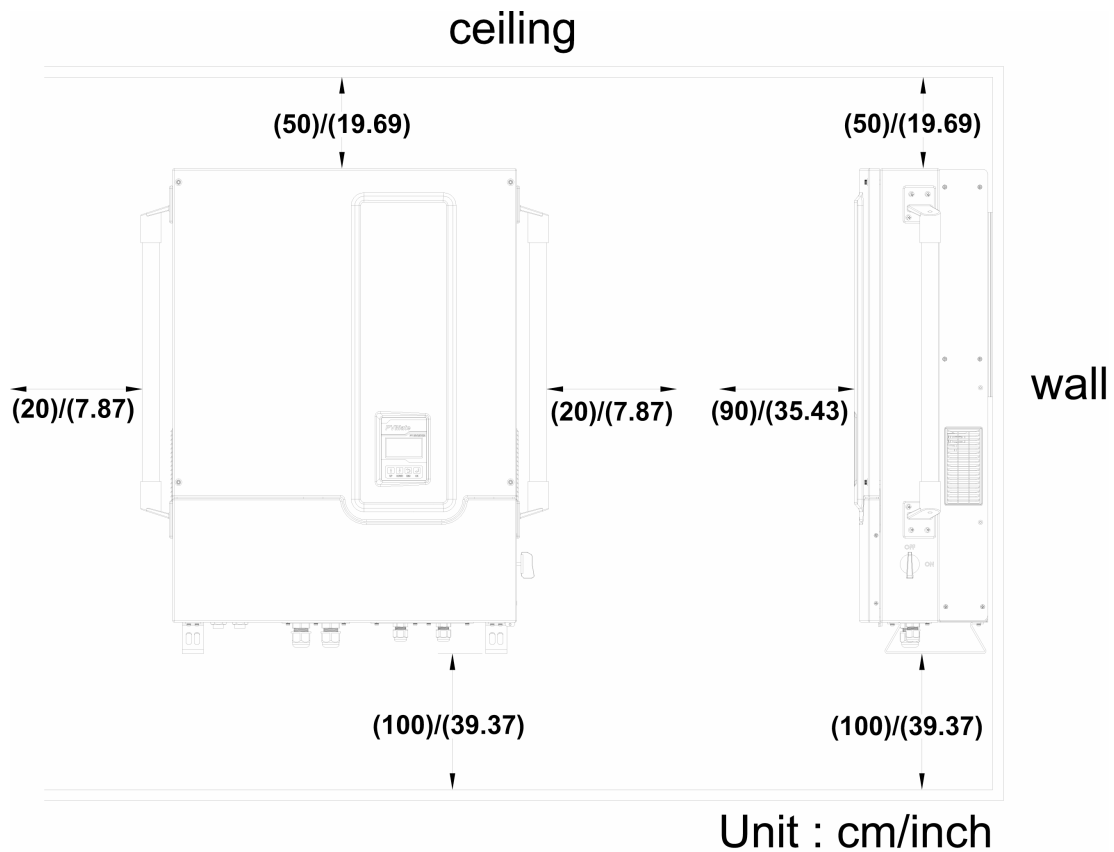

Fig 2.1.1
- Leave at least 50 cm (19.7 inches) of free space above and 100 cm (39.4 inches) below the inverter when installed outdoor. Allow 20 cm (7.9 inches) between inverters when installing multiple inverters for better ventilation (see Fig 2.1.1).